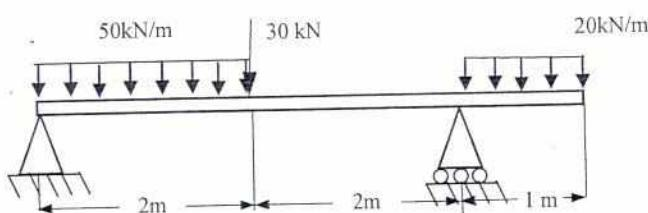

Figure 4
- Q5 Construct the Shear force and Bending moment diagram for the beam as shown in **Figure 4**. Also, mark all the salient points in the diagram.